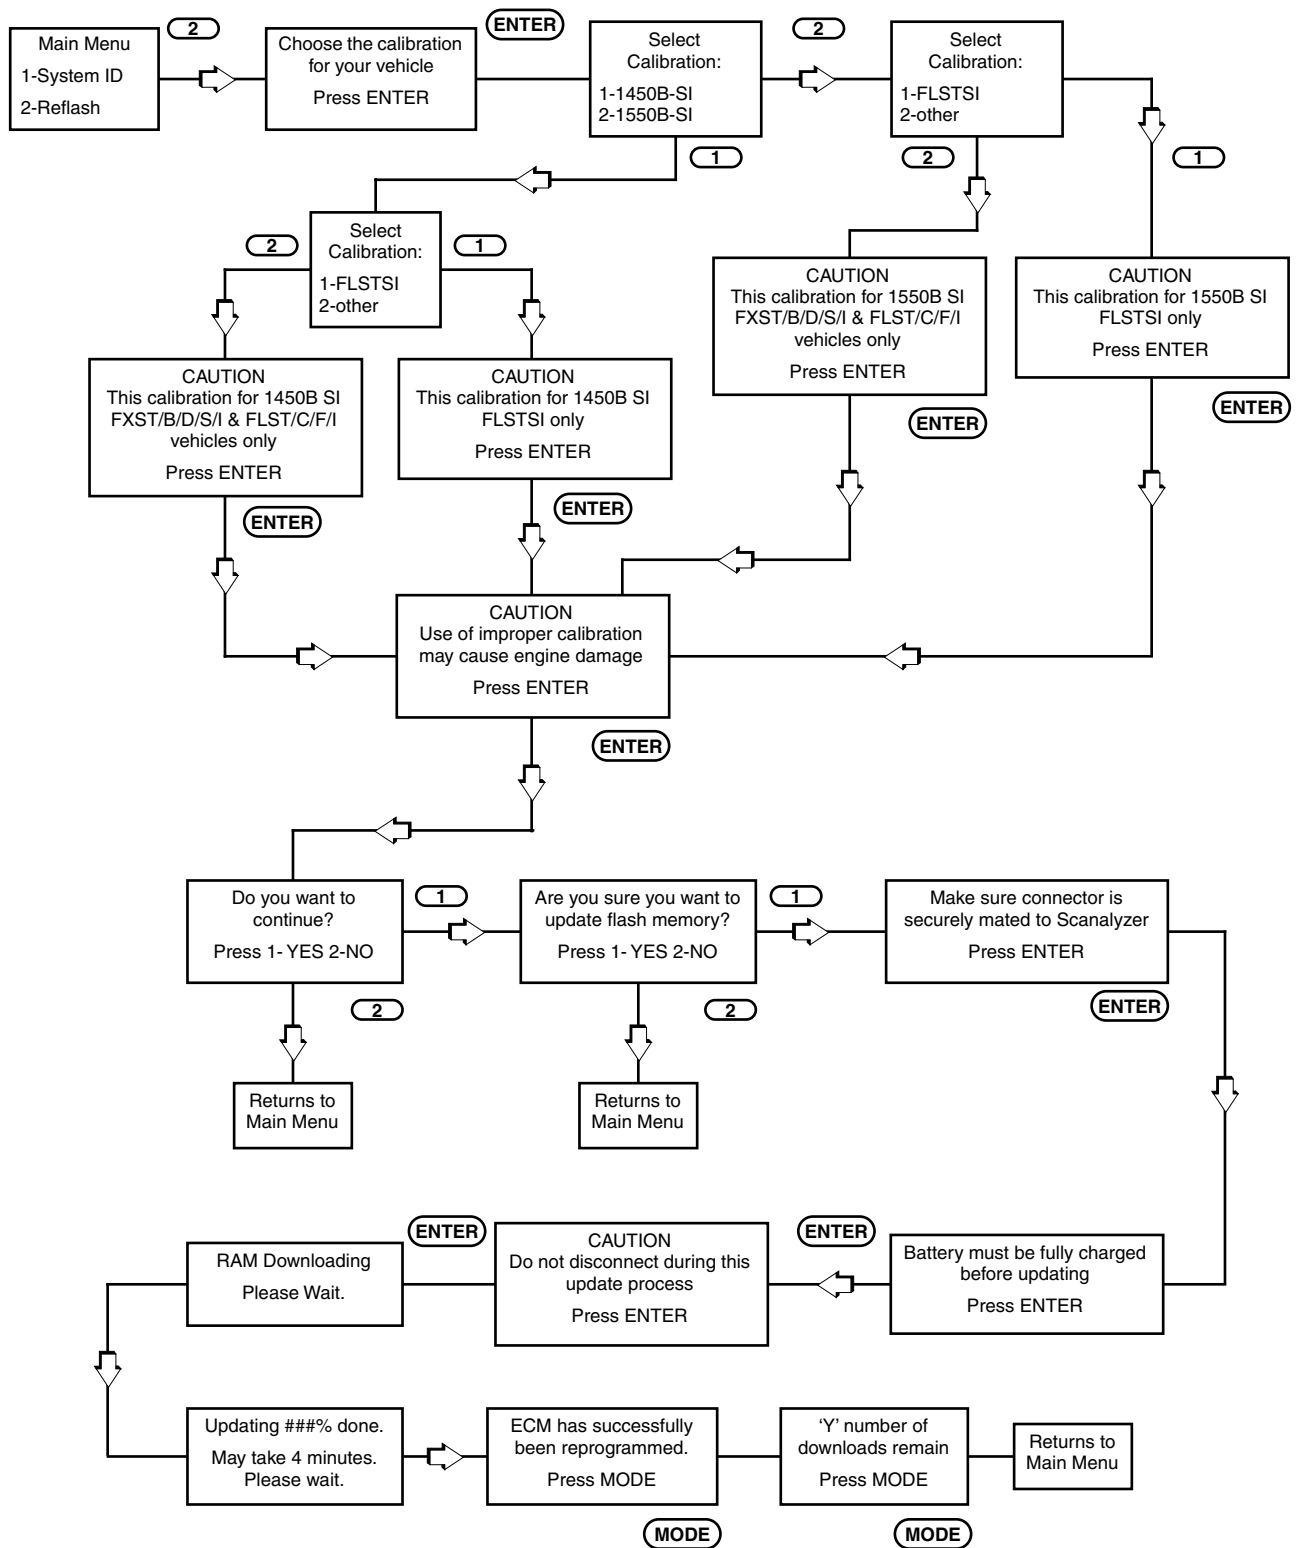

Figure 2. Example of Softail ECM Recalibration Routine
7. From the Main Menu, press the number "2" key to begin the recalibration routine. See the flow chart in Figure 2 for an example.